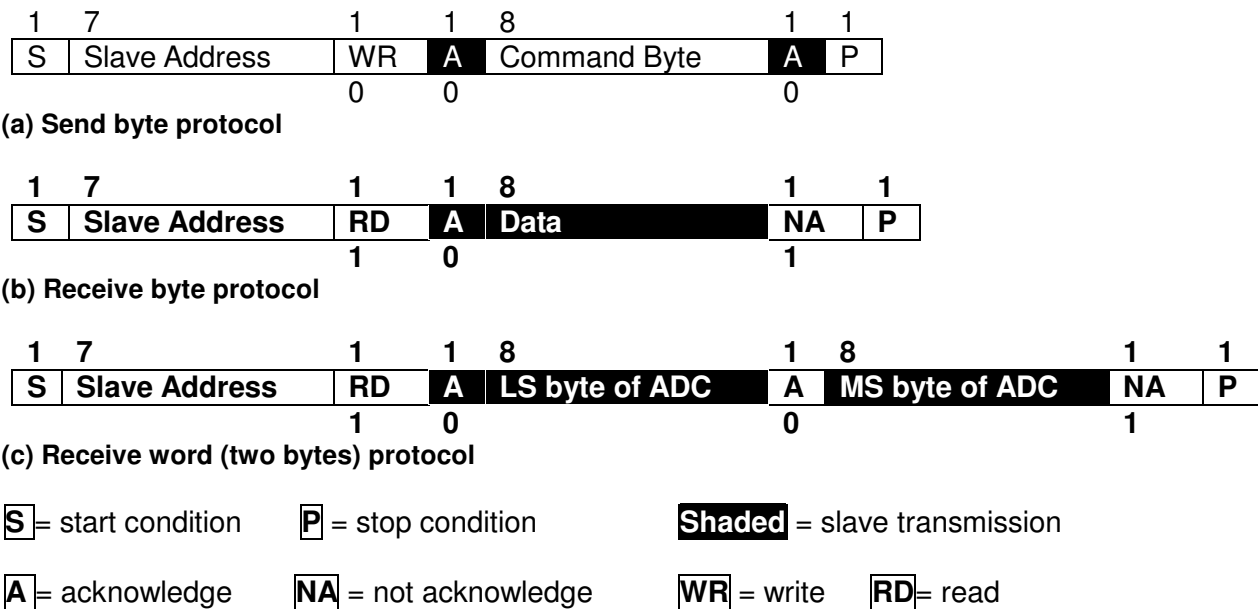

Figure 13. Communication Protocol
The Send Byte protocol allows single byte of data to be written to the device (see Figure 13-a). The written byte is called the COMMAND byte. The Receive Byte protocol allows one-byte data to be read from the device (see Figure 13-b). Two-byte data can be read by following the Receive Word Protocol shown in Figure 13-c. In Figure 13, the clear area represents data sent by the host (master) and the shaded area represents data returned by the ambient light sensor (slave device).
- (1). After being powered on, the device will initially be in the shut-down mode (default setting).
- (2). To operate the device, issue an Send Byte protocol (see Figure 13-a) with the device address 0x29 followed by a command byte of 0x04 to activate the ambient light sensor.
- (3). I²C master sends a "start integration command" to the slave device by issuing Send Byte protocol with the device address 0x29 followed by a command byte of 0x08.
- (4). After a period of user defined integration time, I²C master sends a "stop integration command" to the slave device by issuing Send Byte protocol with the device address 0x29 followed by a command byte of 0x30.
- (5). To read the ADC conversion result, issue an Receive Word protocol (see Figure 13-c) with the device address 0x29 followed by two-byte reading procedures.
- (6). If the stop integration command is not received by the device, the valid bit (D[15]) will be "0" to indicate that the data is not valid. If there is a valid conversion result available, the valid bit (D[15]) will be set logic high, and the remaining 15 bits will represent valid data from the ADC register.
- (7). Data may be read repeatedly from the ADC register, and although it will remain valid, the ADC register will not be updated until a new complete integration cycle has been carried out. In this cases, the power consumption of the device can be reduced by issue a send Byte protocol with the device address 0x29 followed by a data byte of 1xxx_xxxx.(Binary code)